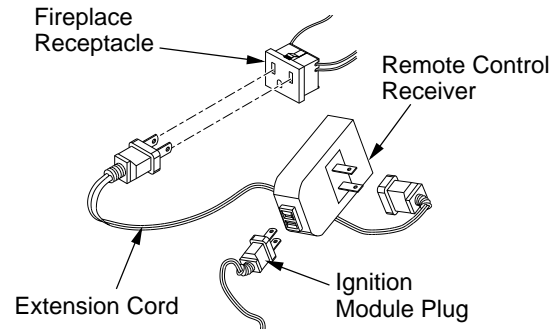

Figure 46 - Installing the WRC Remote Receiver
2. The WRC model receiver does not require a battery. The receiver can be installed by first plugging the short extension cord into the fireplace receptacle. Then plug the receiver unit into the extension cord. Finally plug the ignition module plug into the receiver unit (see Figure 46).